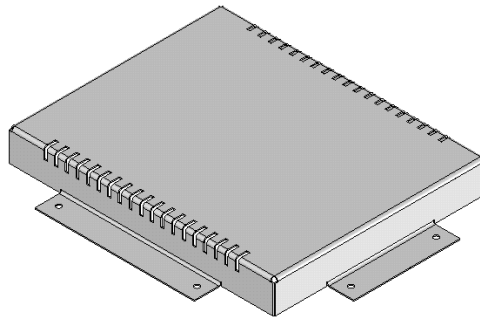

Figure 16-161 Sheet metal component after refolding
2. Choose the **Collect All Bends** button and then choose **OK**. The sheet metal component after refolding is shown in Figure 16-161.